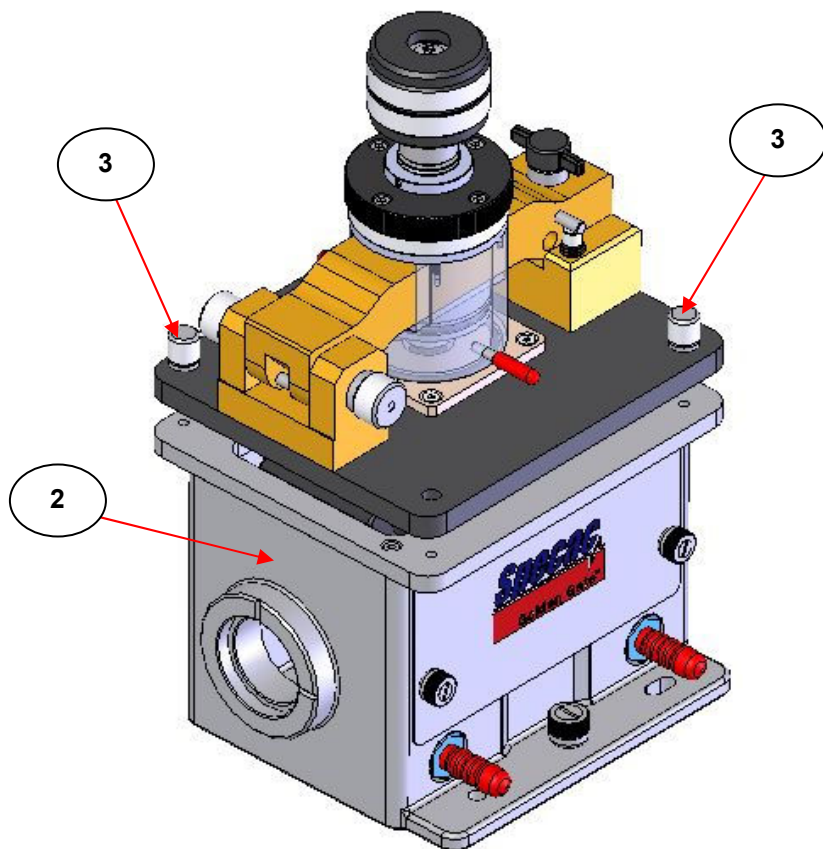

Fig 3. GS10650 Top Plate Fixing to Golden Gate™ Optical Unit
If the Envirochamber Golden Gate™ ATR top plate has been purchased as P/N GS10650, as an alternative top plate to use for an existing Golden Gate™ ATR accessory, it attaches to the Golden Gate™ optical unit (2) by use of the two thumbs screws (3). (See Fig 3.)